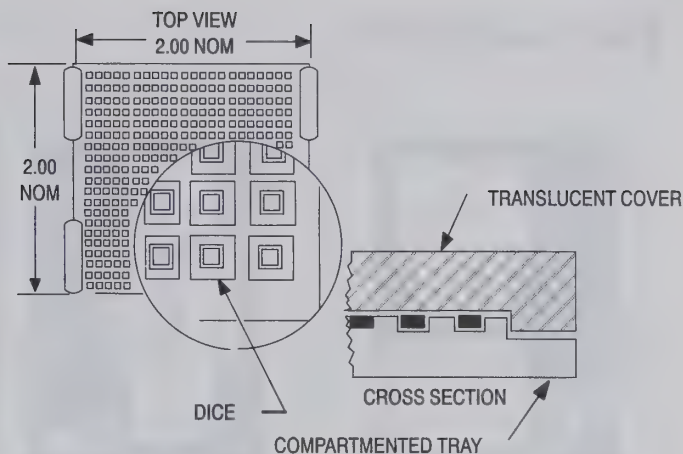

Figure 1. Multi-Pak (No Suffix)
**Multi-Pak** — Motorola supplies all discrete semiconductors in the industry standard multi-pak. (Waffle type carrier, Figure 1.) This is a 2 x 2 or 4 x 4 waffle type carrier with a separate hole for each die. Chips are 100% visually inspected with the rejects removed. There is no suffix associated with the multi-pak carrier.